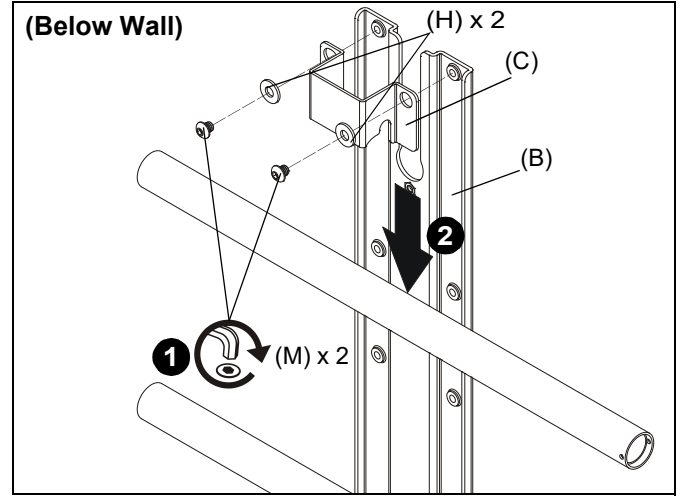

Figure 3
1. Use two 1/4-20 x 1/4" button head cap screws (M) and two large washers (H) to secure shelf bracket (C) to main bracket (B). (See Figure 3)
2. Slide main bracket (B) behind wall mount rails until shelf bracket (C) rests on top of wall mount rail. (See Figure 3)